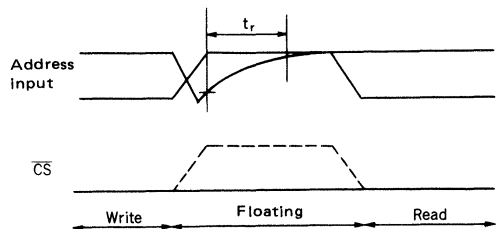

Figure 8-8
- B: Put $\overline{\text{CS}}$ into High while Address Input becomes floating. (Dotted line in Figure 8-8)
- C: Insert Pull-up Resistor (R) to hold time constant of Rising Edge wave form of Address Input pin ($t_r = R \times C$) below 150 ns.